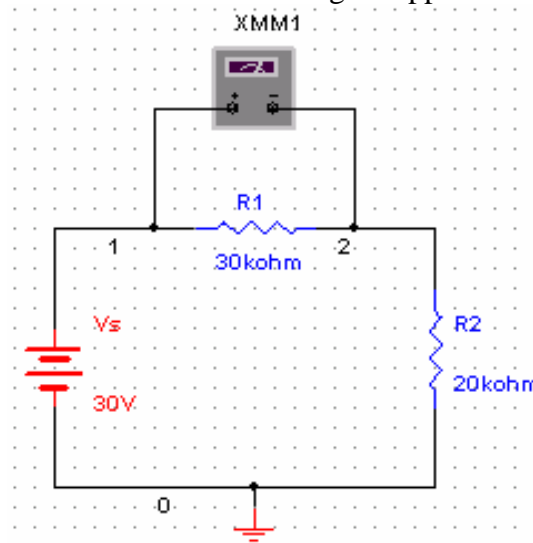

Figure 14: Multimeter connection for voltage measurement
- b. Click on **Multimeter** icon. Now click in the workspace to place the Multimeter. Drag it and place it near resistor  $R_1$  as shown in Figure 14. Make a connection from '+' terminal of Multimeter to the left pin of  $R_1$  and from '-' terminal to right pin of  $R_1$ . Note that reversal of + and - terminals will give opposite readings.